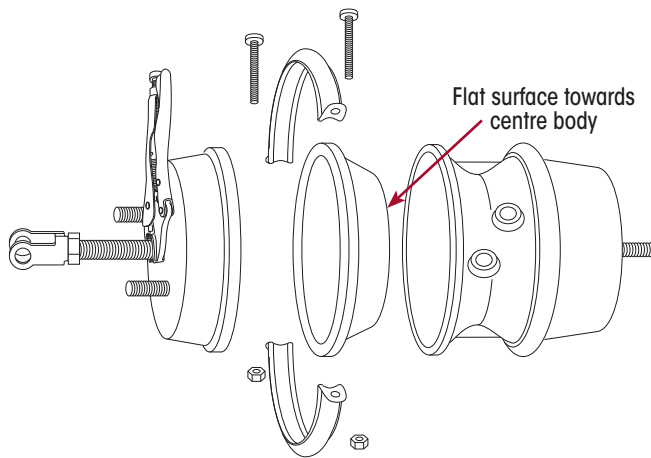

Figure 106: Brake Chamber Assembly
2. Place new diaphragm into the centre body with the flat surface towards the centre body. Refer Figure 106.